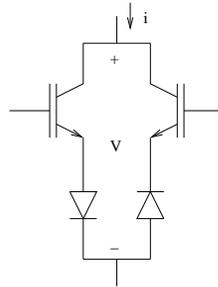

Figure 5.13: Combine Elements 3
3. Block positive and negative V and carry positive and negative i (see Figure 5.13).